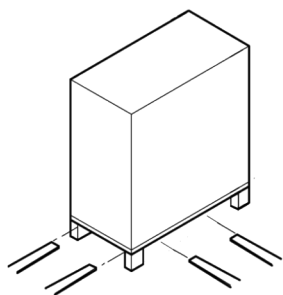
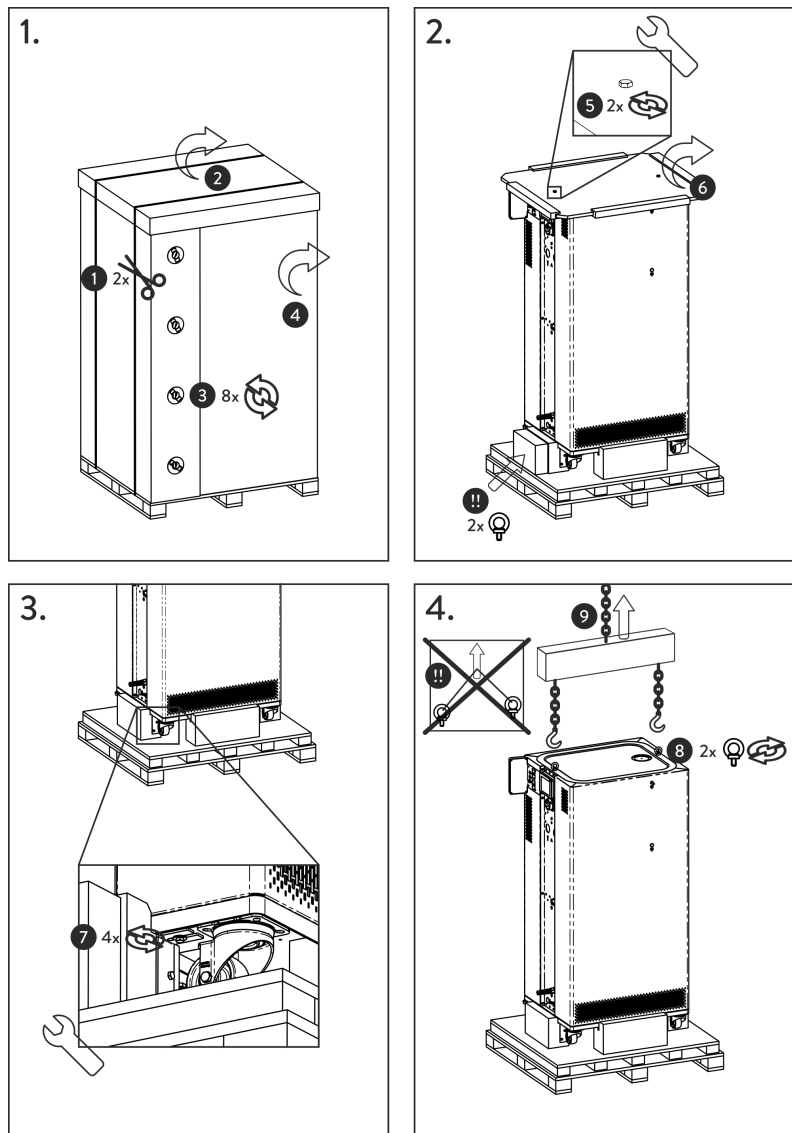

Fig. 1: Transport with forklift truck
Fig. 2: Unpacking instructions
1. **Fig. 1:** Cut and remove the strapping ①.
2. Lift the cover of the cardboard box ② and remove it.
3. Unscrew the bayonet locks ③ from the box. Turn them counterclockwise to perform this task.
4. Remove the box ④.
5. **Fig. 2:** Unscrew the screws ⑤ from the wooden cover. Turn them counterclockwise to perform this task. Remove the wooden cover ⑥.
7. **Fig. 2:** Remove the ring bolts from the packaging.